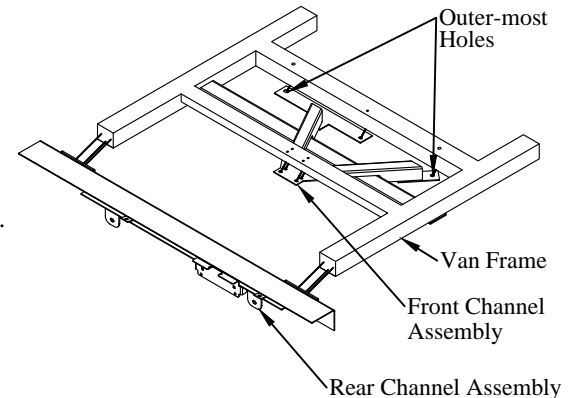

Figure 8: Front and rear channel assembly locations.
8. **Install** the rear channel assembly on the rear of the van frame (Figure 8). Use the two (2) supplied 3/8" bolts, flat washers, lock washers, and nuts in the bottom holes. Use the four (4) vehicle bumper (or supplied M10) bolts on the top holes.
9. **Install** the front channel assembly on the van frame (Figure 8). Use the vehicle spare tire mechanism (or supplied M8) bolts in all but the outer-most holes.
10. **Install** the two (2) supplied 14M x 1.5 x 30mm bolts and lock washers in the front channel assembly outer-most holes (Figure 8). If the vehicle cross member is not threaded, complete steps 11-15 for each hole.